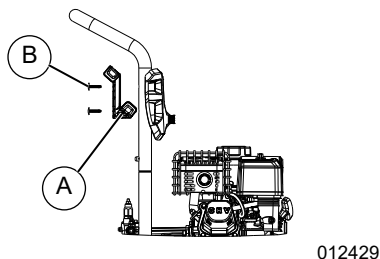

Figure 2-4. Install Gun Hook
4. See Figure 2-4. Install gun hook (A) on right (back) side of handle. Secure with tree clip (B).